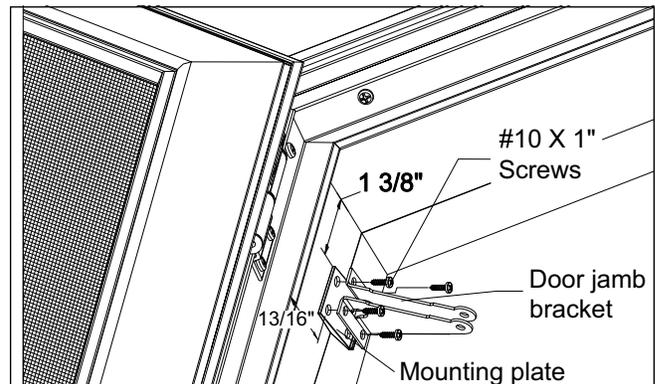

Figure 11
- For 4 9/16" Jamb Depth:** Measure and mark 1 3/8" (35) from head jamb on the primary hinge side jamb. Align the top of the mounting plate with the mark, and seat mounting plate in the 15° recess. Mounting plate lip should be on the interior of the door. Using the mounting plate as a template, mark screw holes and pre-drill with 7/64" drill bit. See figure 11.
*NOTE: If more latching force is desired, jamb bracket may be moved up to 1" (25) away from the screen door. Moving the bracket further from door nominally reduces full door operation.*